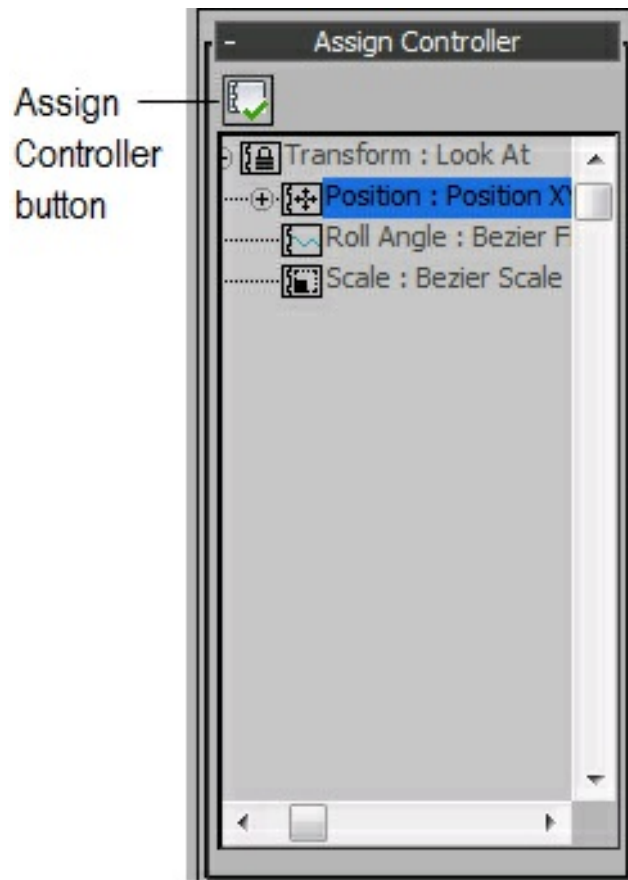

Figure 14-28 The Assign Controller rollout
6. Expand the **Assign Controller** rollout in the **Parameters** tab and then choose the **Position : Position XYZ** option from it; the **Assign Controller** button is activated, as shown in Figure 14-28.